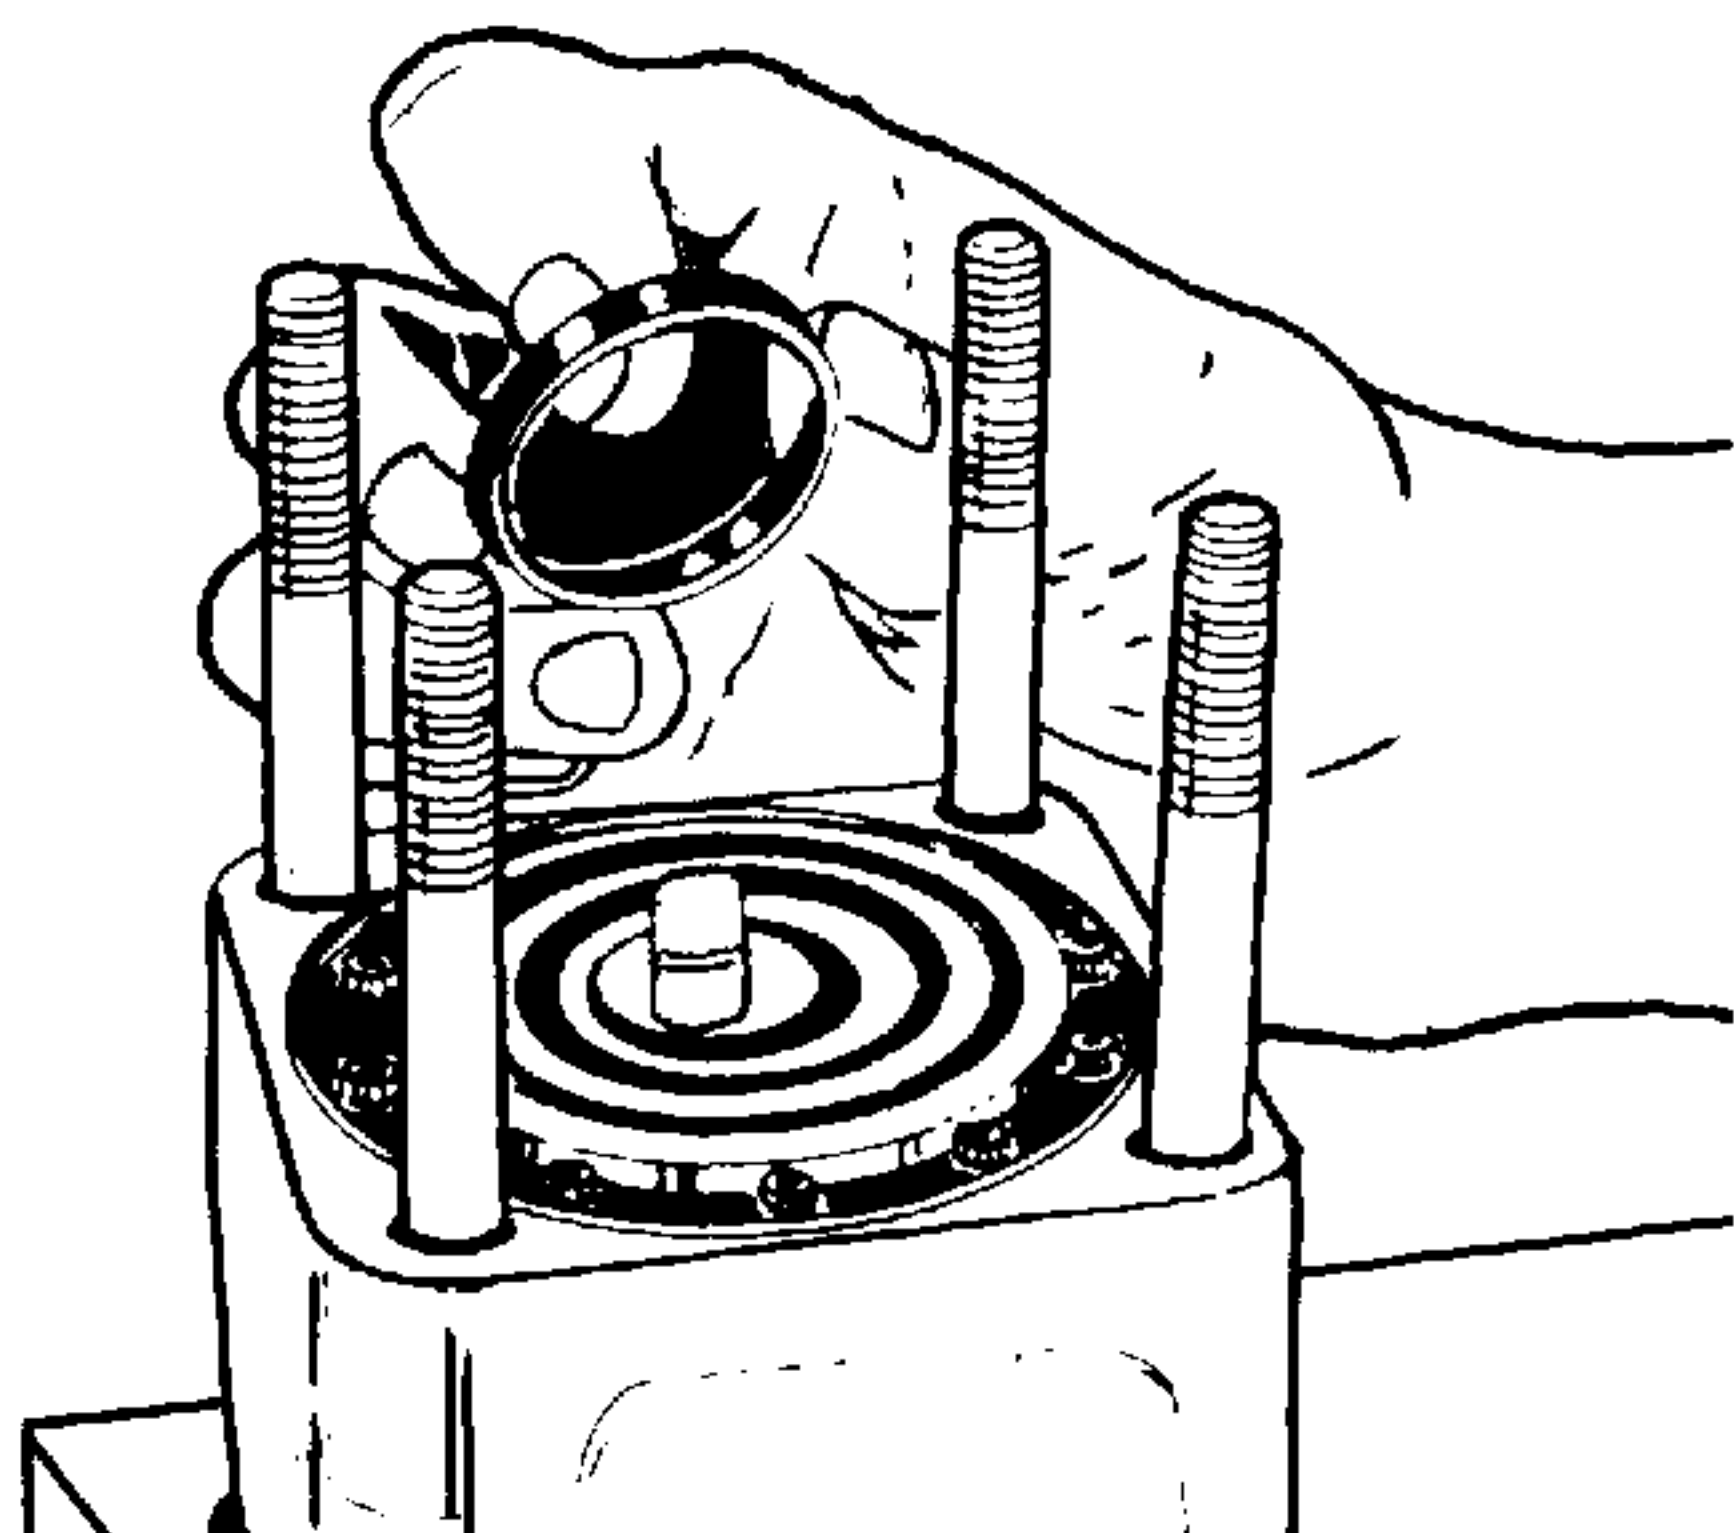

Figure 4-74. Installing Commutator Seal.
26. Grease the new commutator cover seal (17, Figure 4-1) and place it into the commutator cover (18) seal groove. The rubber portion (the softer side) of the seal with the yellow mark must be placed into the seal groove. See Figure 4-74.